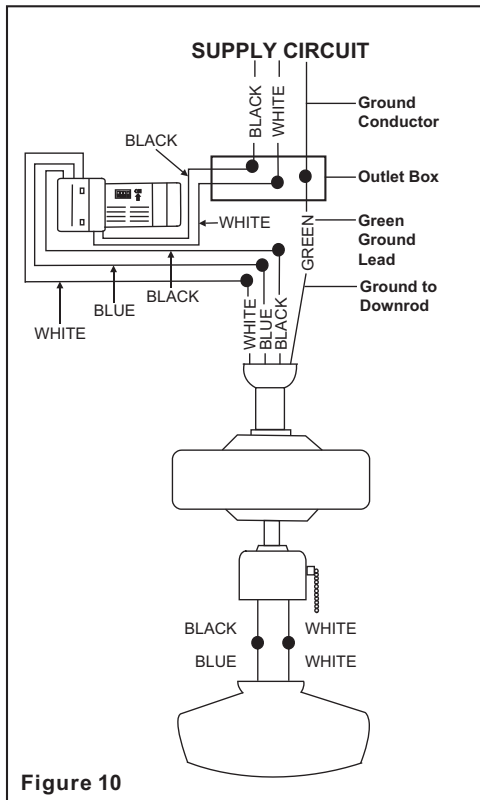

Figure 10
**Step 2.** (Fig. 10) Motor to Receiver Electrical Connections: Connect the Black wire from the fan to Black wire marked "TO MOTOR L". Connect the White wire from the fan to the White wire marked "TO MOTOR N" from the receiver. Connect the Blue wire from the fan to the Blue wire marked "For Light" from the receiver. Secure wire connections with the plastic wire nuts provided.
**Step 3.** (Figure 10) Receiver to House Supply Wires Electrical Connections: Connect the black (hot) wire from the ceiling to the black wire marked "AC in L" from the receiver. Connect the white (neutral) wire from the ceiling to the white wire marked "AC in N" from the Receiver. Secure the wire connections with the plastic wire nuts provided.
**Step 4.** (Figure 10) If your outlet box has a ground wire (green or bare copper) connect it to the fan ground wires; otherwise connect the hanging bracket ground wire to the mounting bracket. Secure the wire connection with a plastic nut provided. After connecting the wires spread them apart so that the green and white wires are on one side of the outlet box and black and blue wires are on the other side. Carefully tuck the wire connections up into the outlet box.